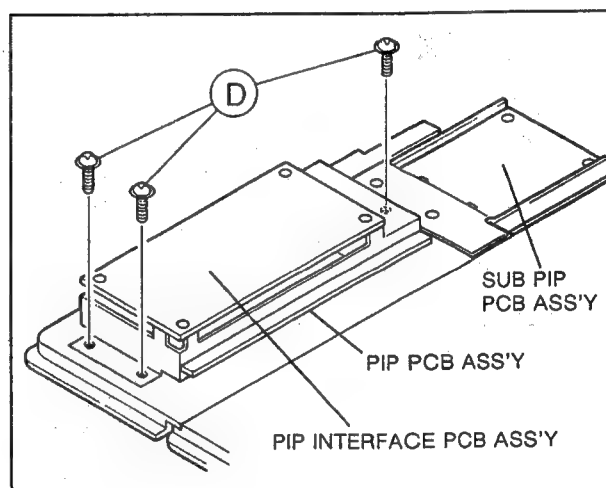

Fig. 5
- 1. Pull out the main chassis. Take out 3 screws ① indicated in Fig. 5, pull the unit outward and raise it to remove.